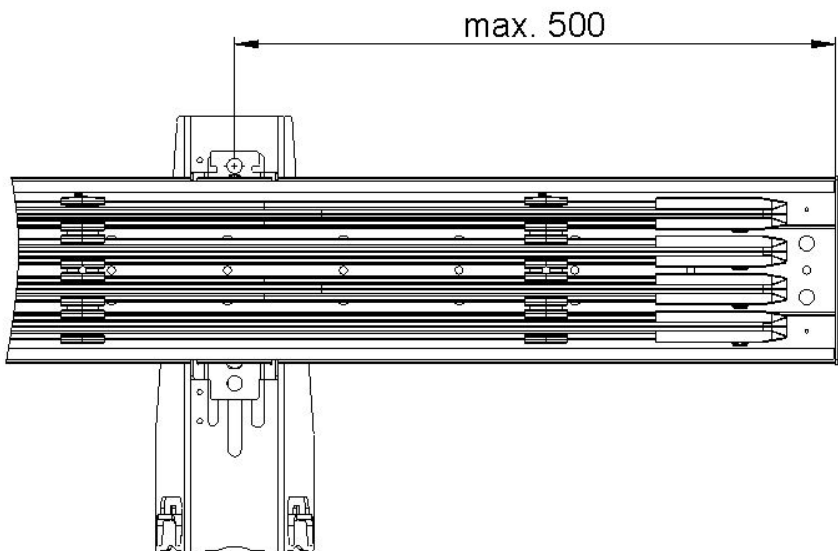

Fig. 17: Console with max. distance of 500 mm from end assembly
5. The last console should have a max. distance of 500 mm from the end assembly (see Fig. 17).